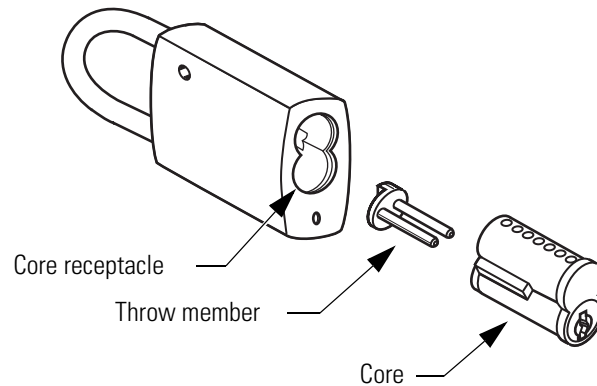

Figure 2.10 Removing the core and throw member
2. With the padlock in the locked position, insert the control key into the core and rotate the key to the right. Remove the core and throw member from the core receptacle, as shown in Figure 2.10.